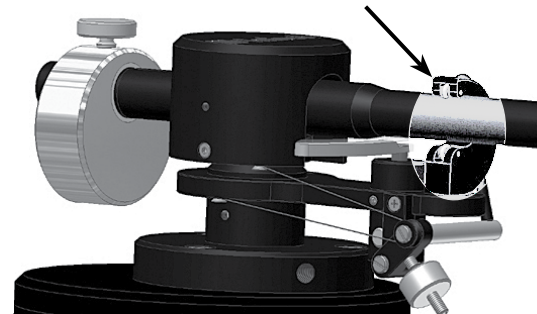

Figure 54
2. Release the Tone Arm from the Tone Arm Holder. Refer to figure 54.